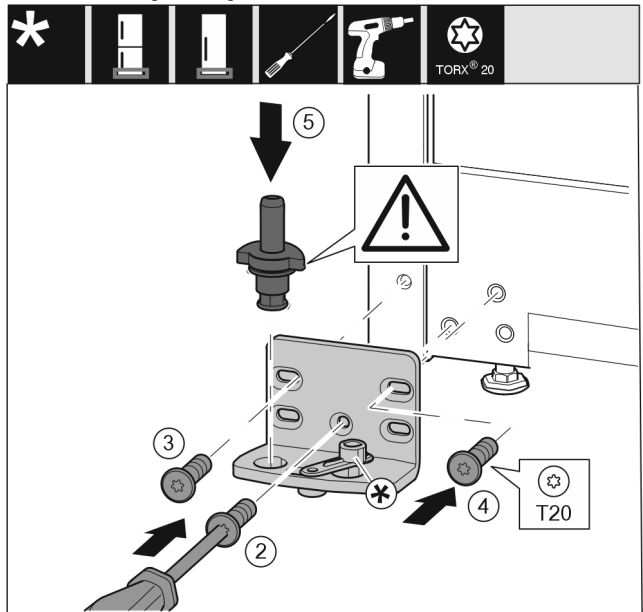

Fig. 14
- ▶ Place the bearing bracket on the other side and screw it on with a T20 screwdriver. Start with screw 2 at the bottom in the middle. *Fig. 14 (2)*
- ▶ Screw in screws 3 and 4 tightly. *Fig. 14 (3,4)*
- ▶ Insert the bearing pin completely. Make sure that the latching lug is pointing to the rear. *Fig. 14 (5)*